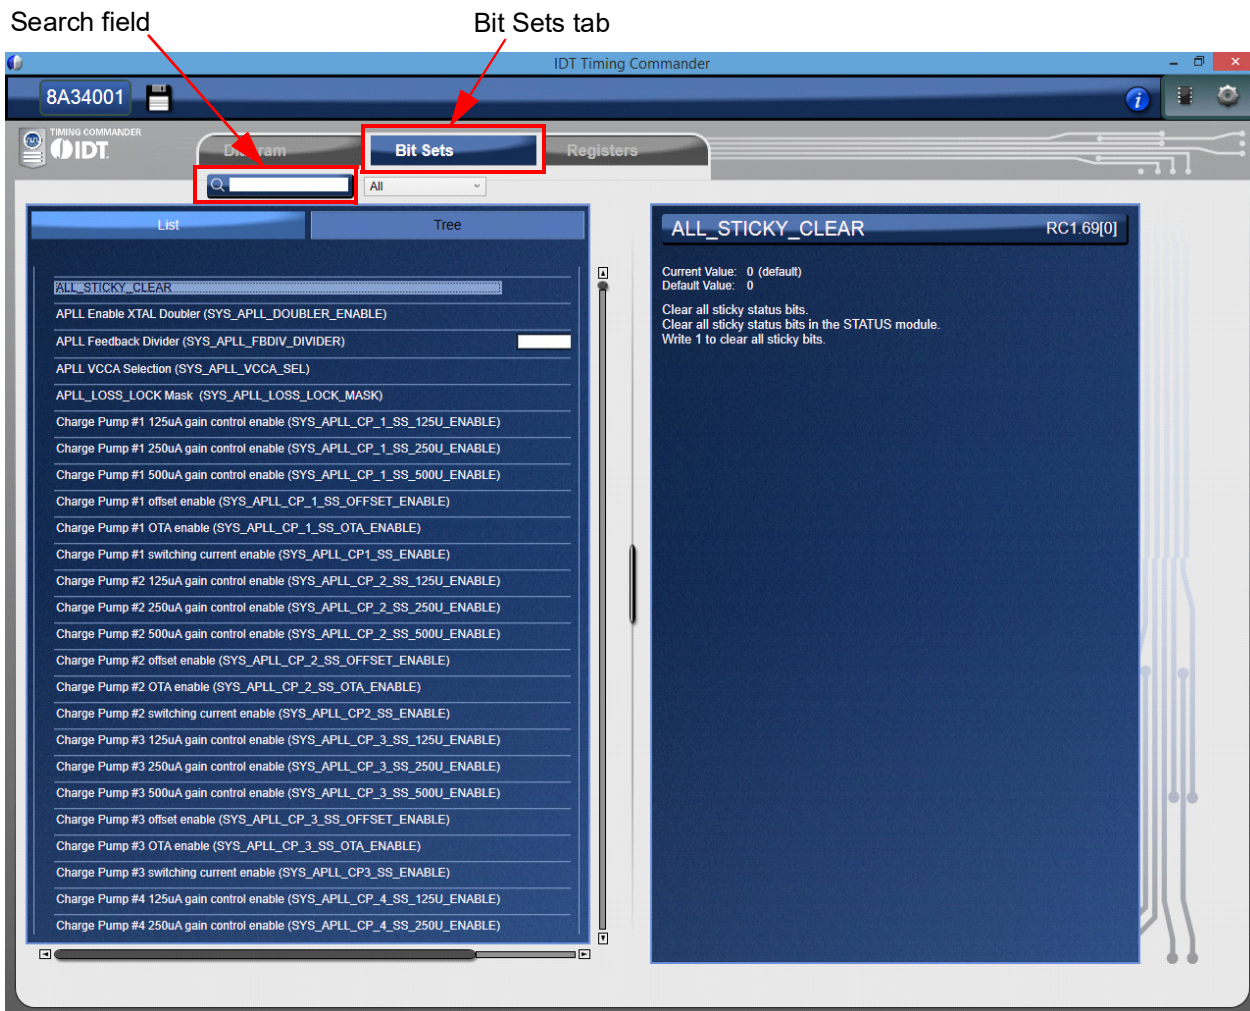

Figure 25. Bit Sets Tab Window
- The Bit Sets tab shows all of the customer visible register names and values (see Figure 25)